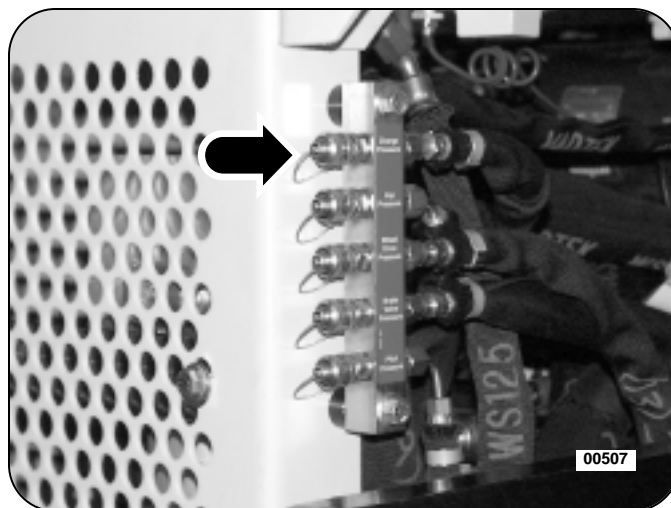

Figure 1: Wheel Drive Charge Pressure Gauge Port Tap
3. Connect the 600 psi pressure gauge, with the TIMBCO quick-couple adapter attached, to the gauge port tap provided on the centralized pressure check manifold. See Figure 1.